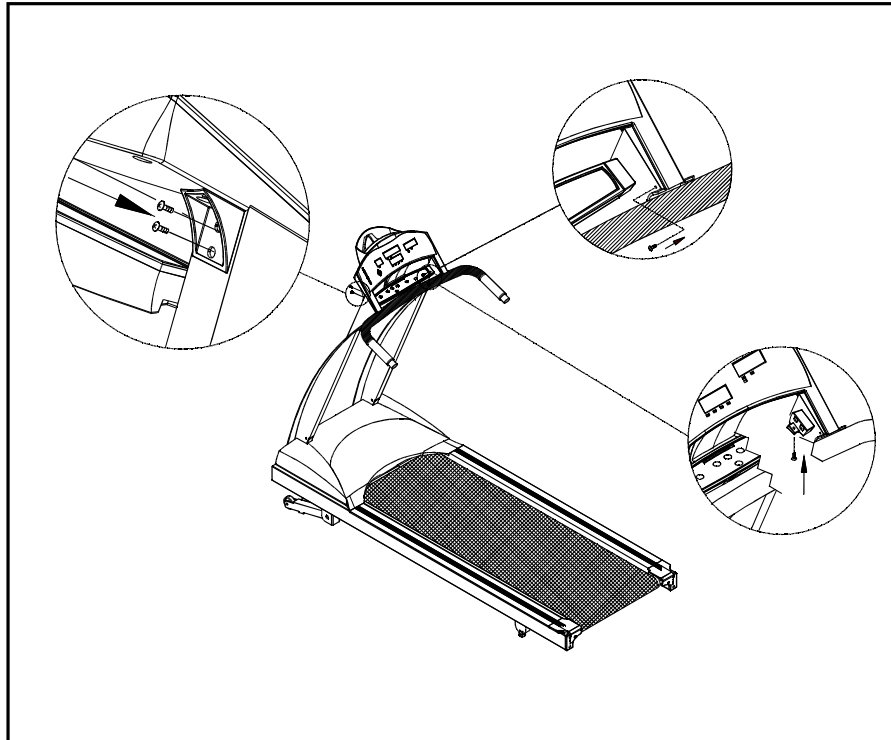

Fig.7
8. Use the screwdriver to tighten all screws securely. (see Fig. 7)